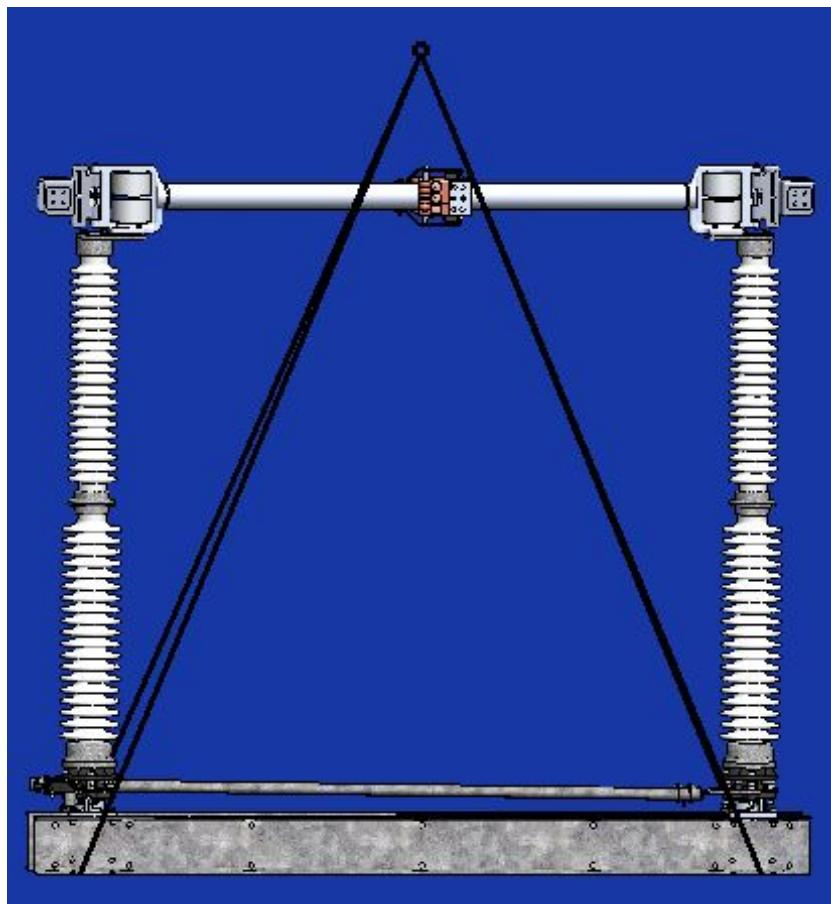

Figure 16: Sling Attachment
2. Assemble the switch pole on the ground and hoist it to the structure as a complete unit. **CAUTION:** To prevent overturning during assembly, the switch base must be securely attached to a level, stable platform. **CAUTION:** Lift fully assembled pole unit by the base only. **DO NOT** lift the pole unit by the live parts. Refer to **Figure 16**.
4. Lift the assembled switch by the switch base only. Refer to **Figure 16**.